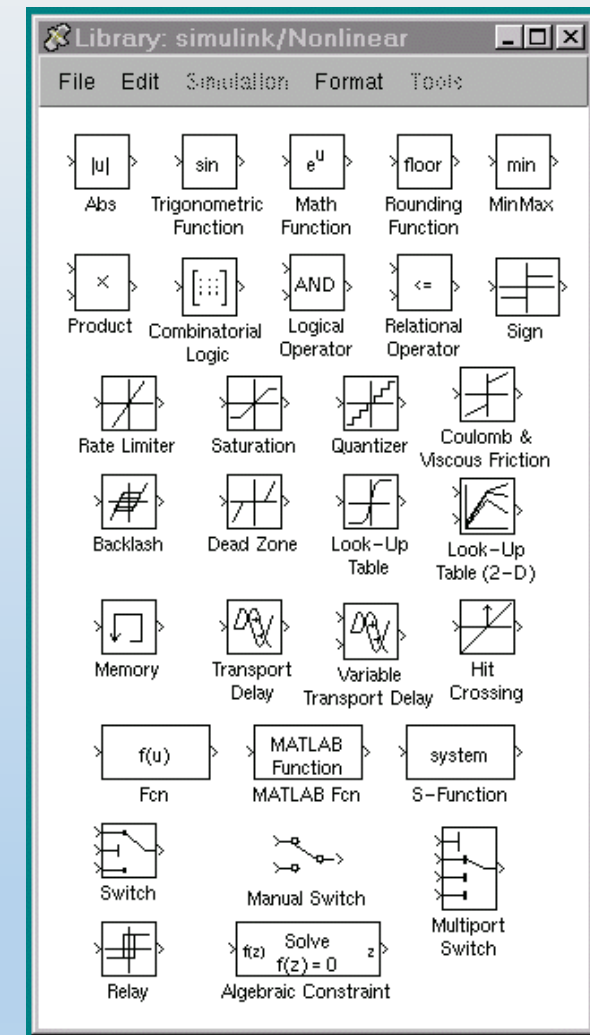

Fig. 7
- **Step 6:** Open the Nonlinear block library, as shown in Fig. 7, and drag a Coulomb & Viscous Friction block to the model window. Double click on the Coulomb & Viscous Friction block to set up the appropriate parameters. Note: For Coulomb friction, set it to an array with 1 value of 0.032 N-m rad set viscous friction to zero since it has already been considered in the TF.